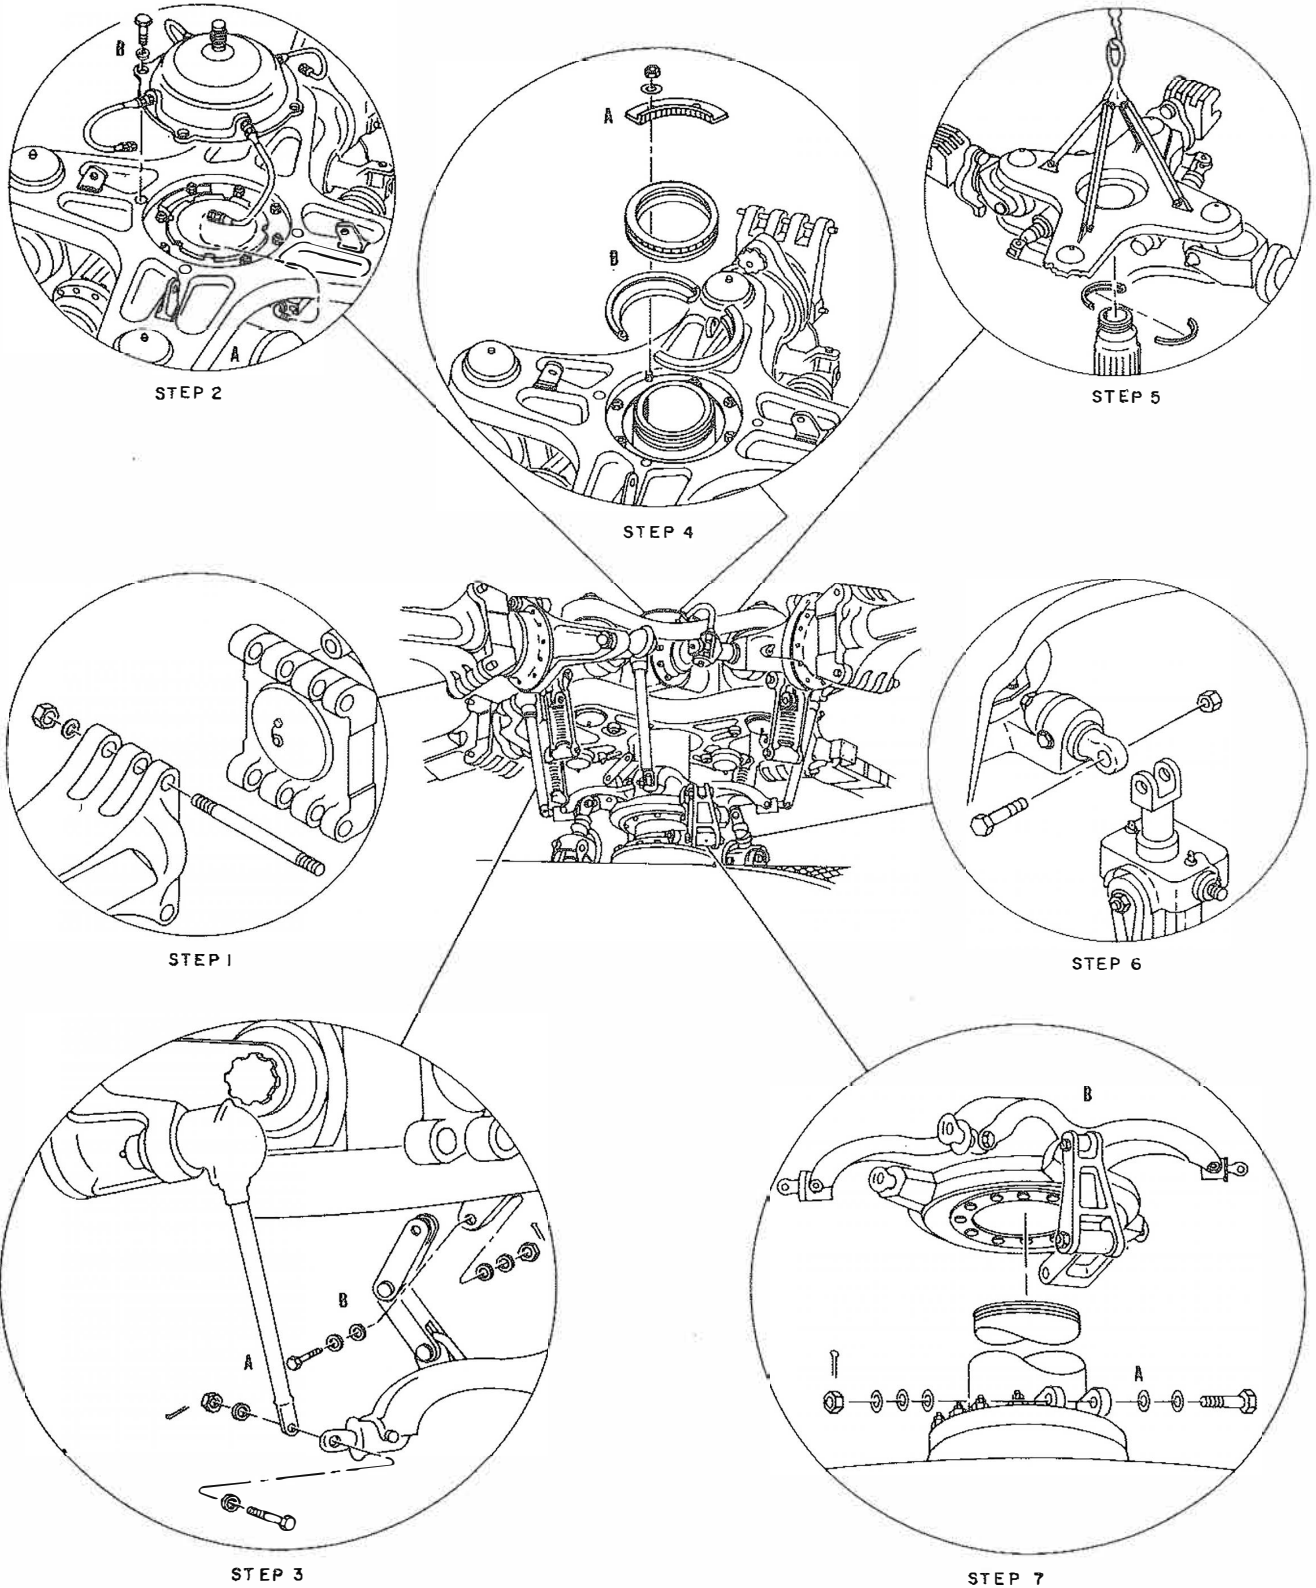

Figure 2-29. Main Rotor Head Assembly Removal - Installation
b. Remove the nut and washer from each taper pin. (See step 1, figure 2-29.)
b. Insert the taper pins into the sleeve and cuff from the leading edge side. Lightly tap the pins into position with a soft-headed mallet. (See step 1, figure 2-29.)
- b. Disconnect a hose assembly from a damper at "A" (step 2, figure 2-29) and drain the fluid tank.
g. Unscrew and lift out the lock nut and the upper split cone at "B" (step 4, figure 2-29).
2-314. INSTALLATION. (See figure 2-29.)
d. Lower the hub assembly onto the main shaft with the sling, Sikorsky part No. S1670-10402. Set the halves of the lower split cones inside the hub and hold the halves in place until the hub is set on the shaft (step 5, figure 2-29). Have the main shaft perpendicular. (Refer to Note, step a., paragraph 2-309.)
e. Position the halves of the upper cone on the lock nut and set both in place on the hub at "B" (step 4, figure 2-29). Screw on the lock nut. Set the wrench, S1670-10399, on the lock nut. Mate the splines of the drive cylinders, S1570-10190-1 and S1570-10190-2, together and mate the splines of a drive cylinder into the wrench. Bolt the flange adapter, S1570-10191 to the housing, KS-2172, and bolt the arm assembly, S1570-10189 or S1670-10447, to the flange adapter. Set the assembled unit over the drive cylinders. Screw the Hydra-Pak ram and gage assembly, HSP-ST5006, into the housing, KS-2172. Slide the forged ball arm, KS-2069, revision "C" or later, or KS-2187 over the splines of the drive cylinder.
g. Install the lock on any two bolts, except the bolt with index zero, and tighten the nuts at "A" (step 4, figure 2-29) with 560 to 690 inch-pounds torque.